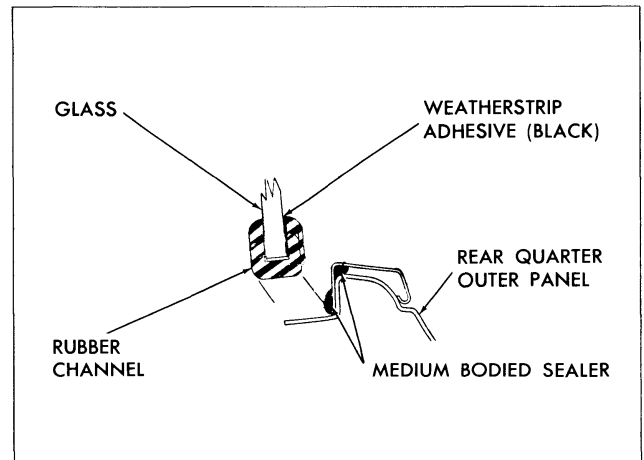

Fig. 4-17 Rear Quarter Stationary Window Sealing
4. Using a plews oiler or any other suitable applicator, apply an approved weatherstrip adhesive (black) between glass and outer wall of rubber channel completely around window. Clean off excess sealer (see Fig. 4-17).